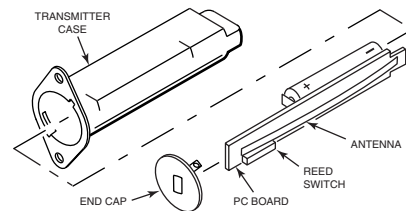

Figure 2: Battery/Transmitter Assembly
4. **Observe correct polarity** and insert the fresh battery into the battery holder (position the battery as shown in Figure 2).